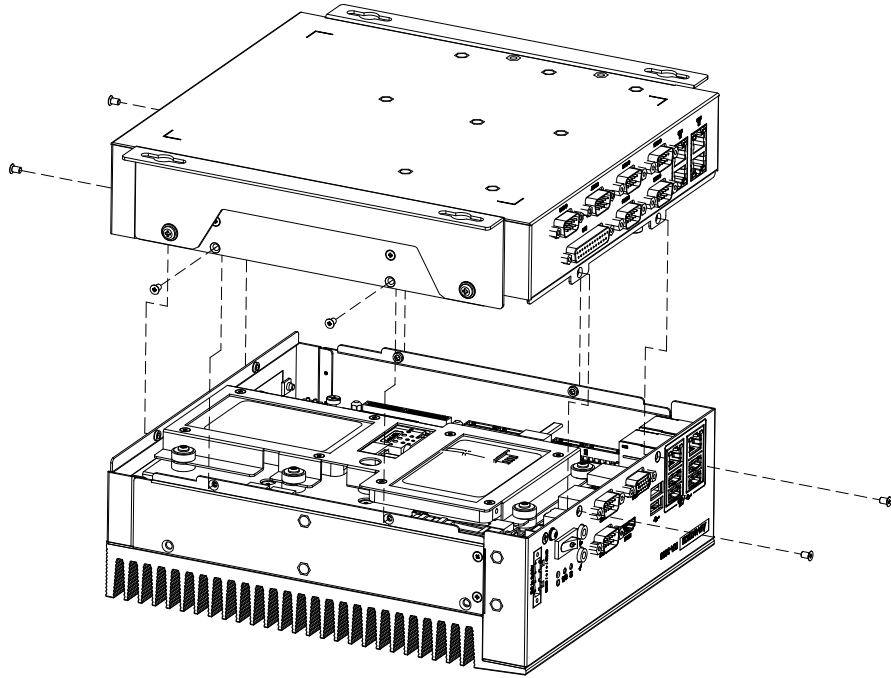

Figure 3.6 Installing expansion Module
2. Install the I/O expansion module on base chassis according Figure 3.6.